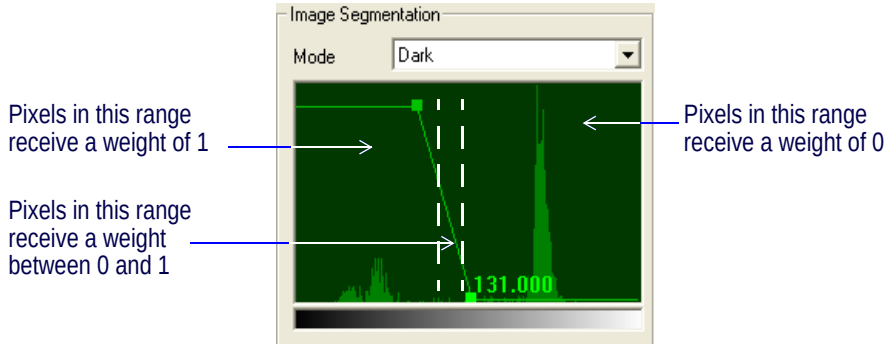

Figure 105 Image Segmentation Function Editor
3. Use the mouse to drag the handles in the graphic function editor. Set the Image Segmentation weight function as illustrated in Figure 105.